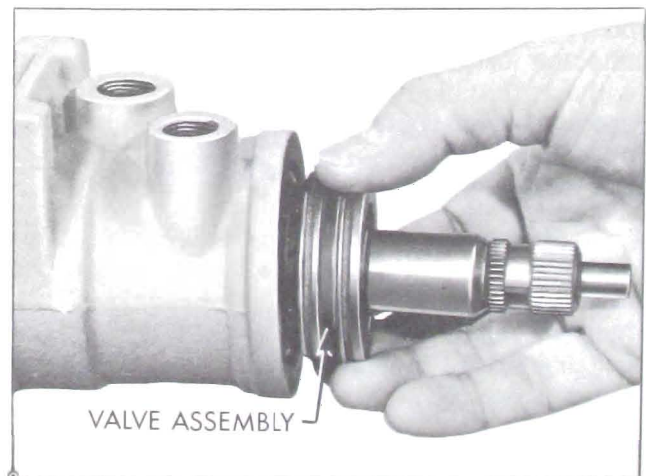
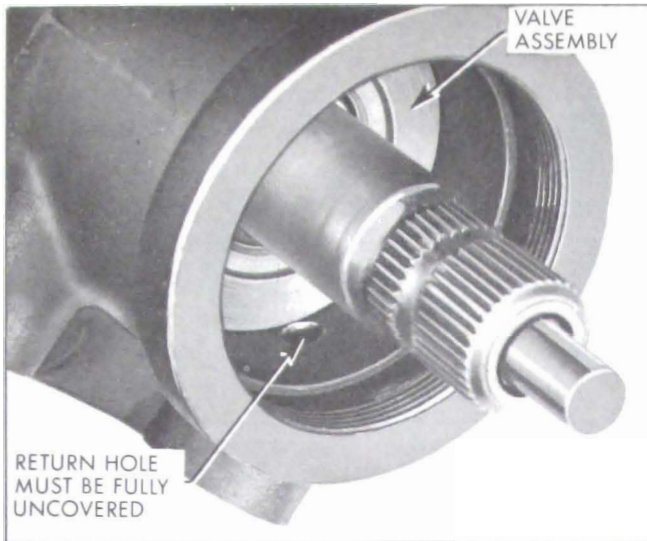

Figure 8-41—Inserting Valve Assembly in Housing
Figure 8-42—Valve Assembly Properly Installed in Housing
1. Align the narrow pin slot on the valve body with the valve body drive pin on the worm. Insert the valve assembly into the gear housing by pressing against the valve body with the finger tips. Do not press on stub shaft or torsion bar. See Figure 8-41. The return hole in the gear housing should be fully visible when valve is assembled properly. See Figure 8-42.
2. Insert the valve assembly and worm in gear housing as an integral unit. Do not press on stub shaft or torsion bar. See Figure 8-41. Return hole in housing should be fully visible when valve and worm are properly installed. See Figure 8-42.